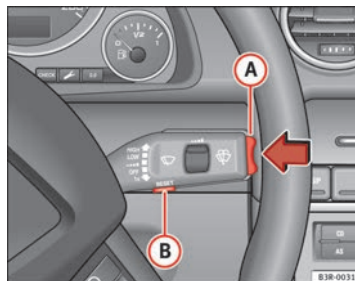

Fig. 60 Windscreen wiper lever: Onboard computer controls
Press RESET button **(B)** ⇒ fig. 60 to switch back and forward between onboard computer functions 1 and 2.
The driving time warning can be switched off by briefly pressing the function selector switch or the **(Reset)** button ⇒ **fig. 60**.
- Press the top or bottom of the function selector switch **(A)** ⇒ **fig. 60**. This displays the functions of the onboard computer in sequence.